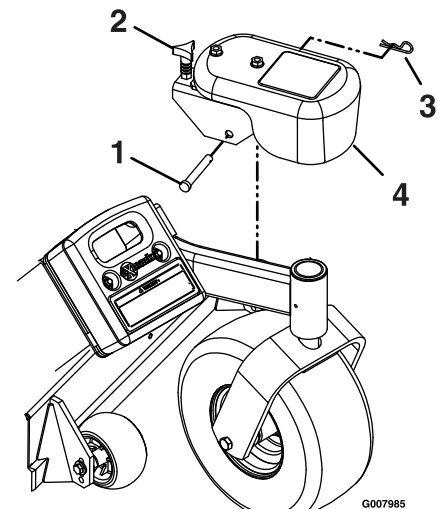

Figure 20
- A. Install the removable caster weights on the caster arms (see Figure 20).